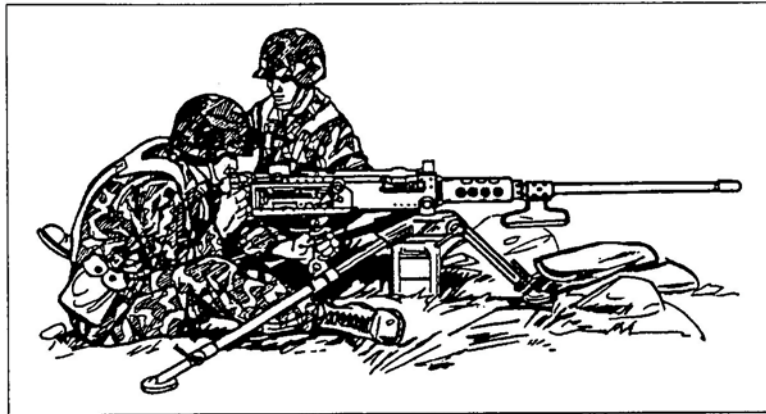

Figure 2. Sitting position (tripod mount)
- b. Sitting position (Figure 2).